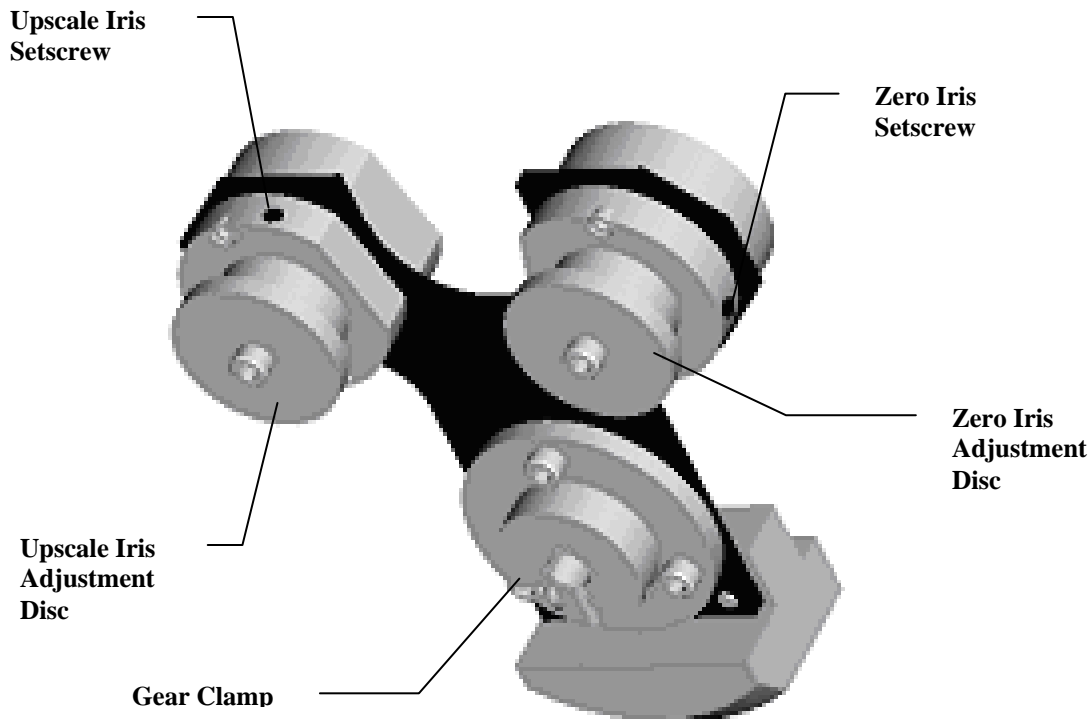

Figure 8-4
While the Optical Head hinged section is open, the simulated zero and upscale windows of the Calibration Assembly may be cleaned. The Cal Mechanism Arm Assembly can be removed by loosening the gear clamp and pulling it off the shaft. See Figure 8-4. **Care should be taken not to damage the guide pin.** Using the standard cloth and solution, clean both windows. Cotton cleaning swabs may be employed to clean hard to reach areas, so long as the lint-free cloth is used to remove any cotton fibers left by the swab. Return the Cal Mechanism Arm to the shaft making sure that the guide pin slides fully into the slot on the arm. Put the gear clamp back on and tighten.
- a) Loosen the Allen head setscrew that locks the Zero Iris in place. See Figure 8-4.
- c) Slowly rotate the disc on the rear of the Cal Zero Iris to achieve as near as possible to 0% opacity ($\pm 2\%$ on U0). See Figure 8-4.
- d) Carefully lock down the Iris setscrew. See Figure 8-4.
- i) Loosen the Allen head setscrew that locks the Upscale Iris in place. See Figure 8-4.
- iii) Slowly rotate the disc on the rear of the Cal Upscale Iris to achieve as near as possible to target value (location C1). See Figure 8-4.
- iv) When the proper value is obtained, carefully lock down the Upscale Iris setscrew. See Figure 8-4.